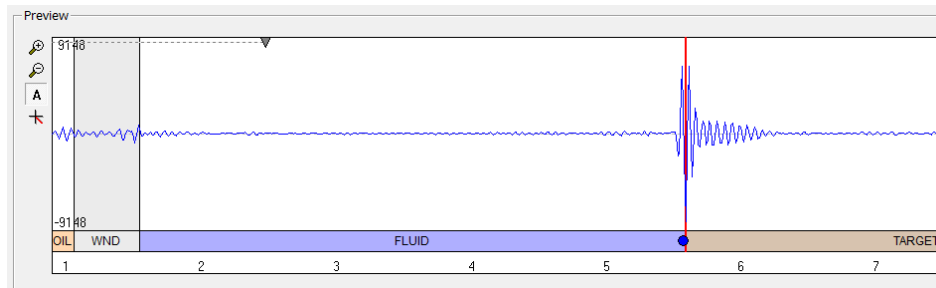

Figure 3-12 Start gate set in automatic multiple mode
- **Automatic Multiple:** the system will automatically adjust the start time of the Echo Gate so that the first multiple of the Acoustic Window reflection is skipped. This setting is useful for large diameter boreholes when the amplitude of the first multiple of the Acoustic Window reflection is higher and arrives earlier than the echo from the borehole wall (Figure 3-12).